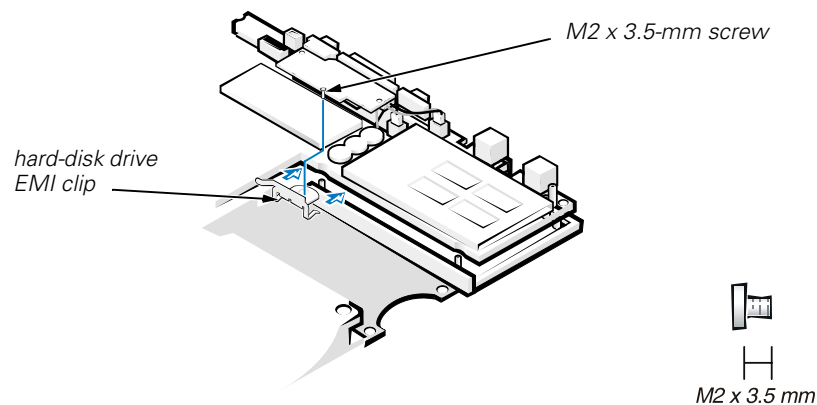

Figure 23. Hard-Disk Drive EMI Clip
2. Place the new hard-disk drive EMI clip on the system board assembly (see Figure 23).
One of the M2 x 3.5-mm screws passes through the hard-disk drive EMI clip (see Figure 23).